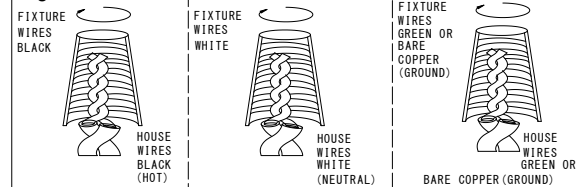

Fig 3
7. To prevent moisture from entering the outlet box (A) and causing a short, use clear silicone sealant to outline the outside of fixture back plate (G) where it meets the wall leaving a space at bottom to allow moisture a means to escape. (Fig.3)
8. To replace the glass, remove gaskets (M,8pcs) and loosening the screws (L,8pcs) to remove cover (K). Insert the new glass (J) into the fixture frame from the bottom. Secure the lower cover (K) by screwing screws (L,8pcs) until tight and reinstalling gaskets (M,8pcs) on the lower cover (K).
9. Install (1) one medium base bulb (I) up to 60 Watts, or CFL or LED equivalent (not included), in accordance with the fixture specification. (DO NOT EXCEED THE MAXIMUM WATTAGE RATING) (NE PAS DEPASSER LA PUISSANCE NOMINALE MAXIMALE!)